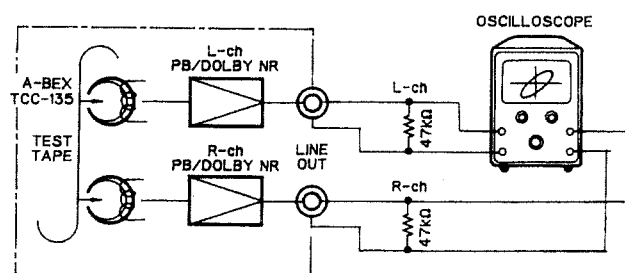

Fig. 2-1
- (1) After completing the tape transport check, load the test tape (A-BEX TCC-153). **Fig. 2-1**